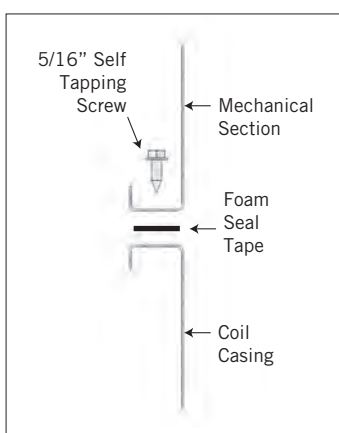

Figure 8. Mechanical/Coil Casing Assembly
16. As illustrated in **Figure 8**, secure the mechanical section to the coil casing section using the 5/16" self-tapping screws provided.